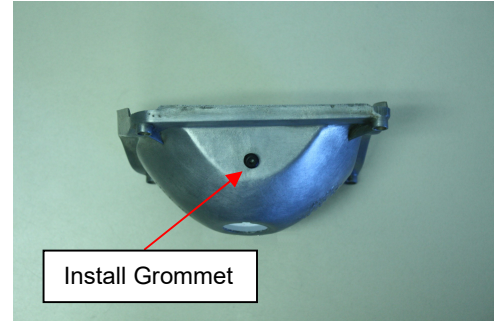

Figure 2
3. OPTIONAL: If sequential patterns are desired, drill a 3/16" diameter hole on the bottom surface of the housing and deburr hole. (See Figure 2) Then install provided rubber grommet into the drilled hole. One method to simplify installation is to pinch grommet, insert protruding edge into the hole, then use a small flat blade screwdriver to push/work the remaining edge through the hole.